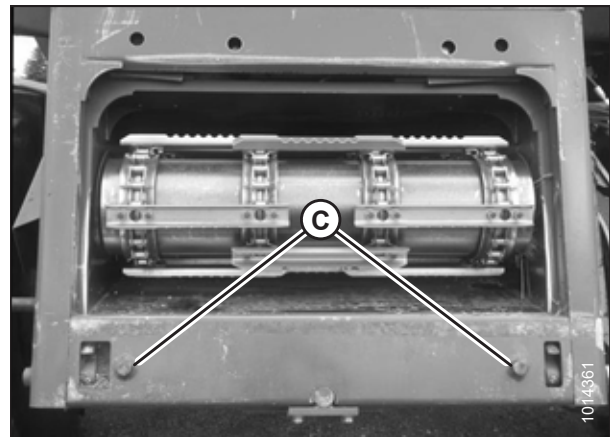

Figure 4.3: AGCO Group Alignment Pins
3. Start the engine and slowly approach the header until the feeder house is directly under float module top cross member (A) and alignment pins (C) (refer to Figure 4.3, page 68) on the feeder house are aligned with holes (B) in the float module frame.